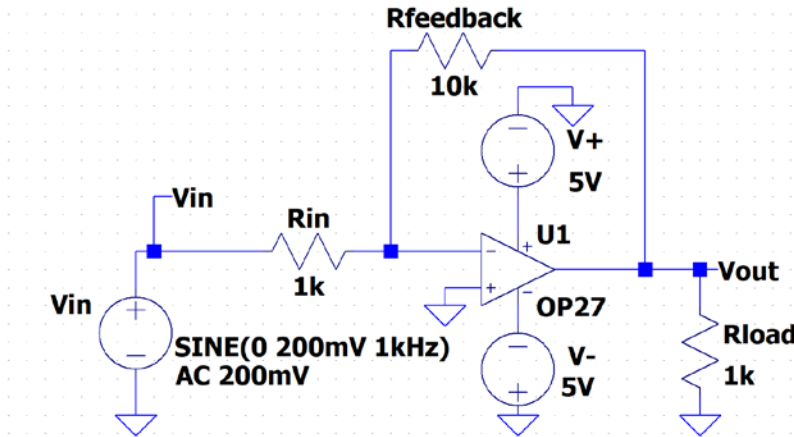

Figure A-1. Drawn with the OP-27 op-amp ( $R_{load} \approx 1k\Omega$ ).
*Elements of an op-amp circuit:* Figure A-1 below is a schematic of a typical circuit built with an op-amp.